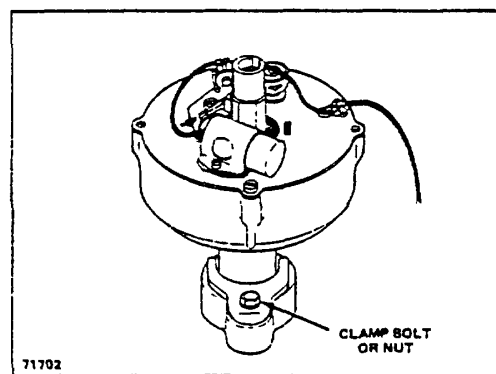

Figure 5-6. Distributor Timing adjustment (Typical)
3. Loosen distributor clamp (Figure 5-6).
1. Loosen clamp at the distributor only if required. (Figure 5-6).